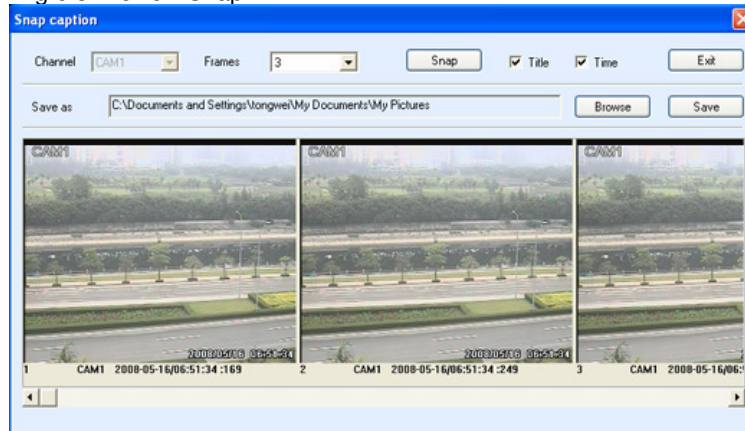

Fig 6.3 Preview Snap
STEP1 Click on a channel to select it. Click the button, a window will appear as in Fig 6.3 Preview Snap.
STEP5 Users can go forward/backward, pause, stop playback and snap pictures. Regarding the snap feature, it is the same as that in remote view, refer to Fig 6.3 Preview Snap.